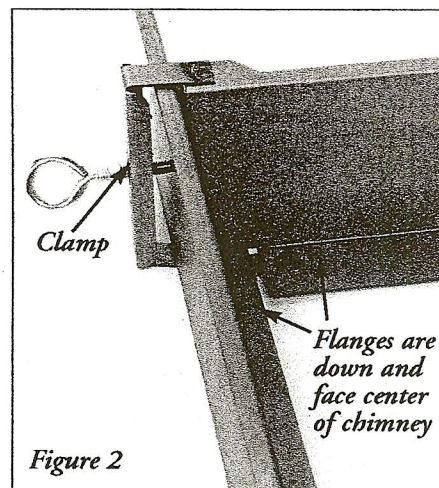

Figure 2
- **Step 4: Form assembly.** Assemble the crown forms by sliding the plain end of each side through the clamp end of its clockwise neighbor, as shown in Figure 2. Lightly tighten the clamp on each section.